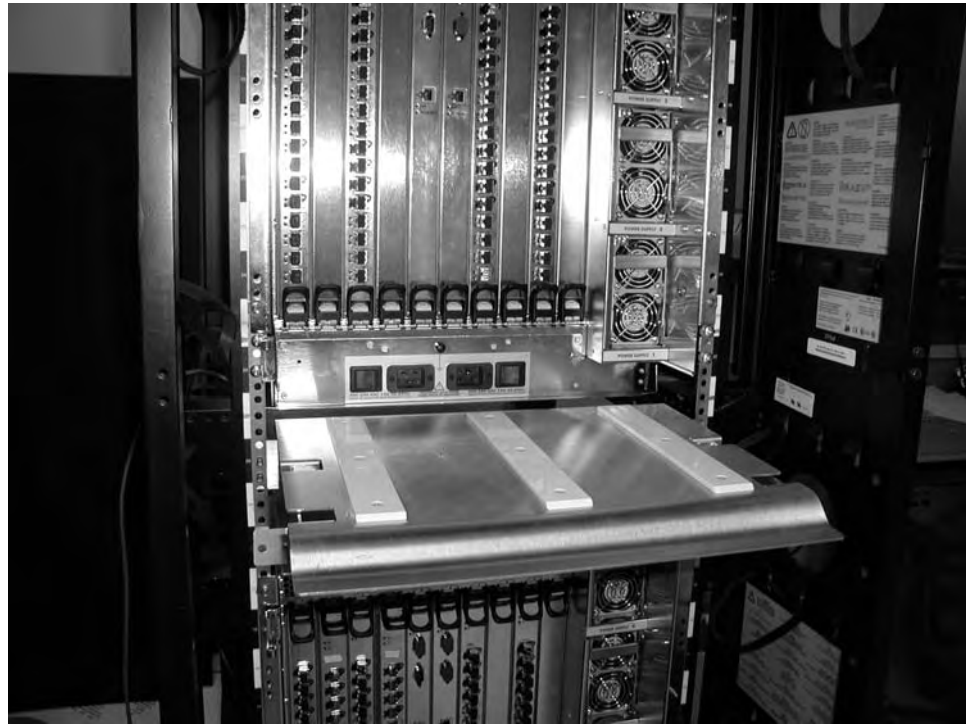

Figure 8. Locking the shelf into position
- e. Lock the shelf into position. See Figure 8.